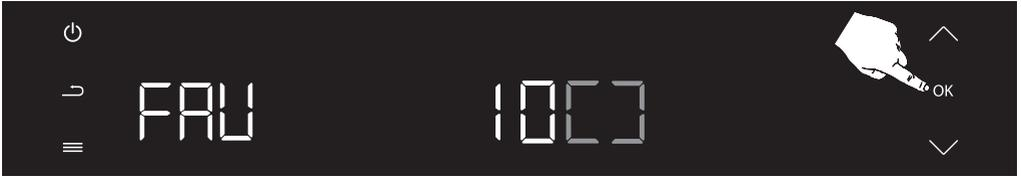

Figure 63
After selecting the favourite number, press the confirmation button (OK) once to confirm the selection of the favourite. (see figure 63)